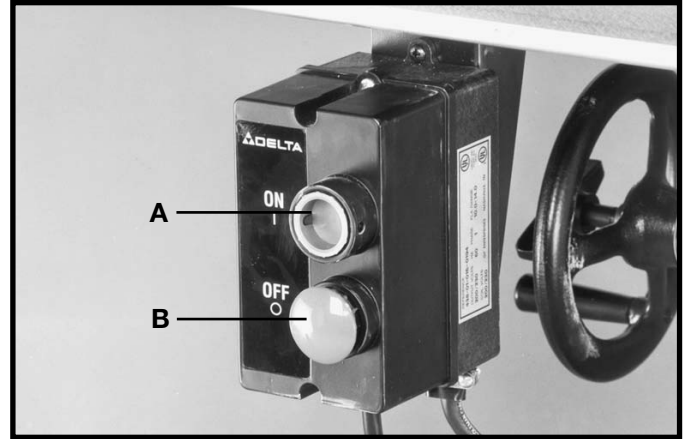

Fig. 114
To apply power to the machine, push "ON" button (A) Fig. 114. To stop the machine, push "OFF" button (B).